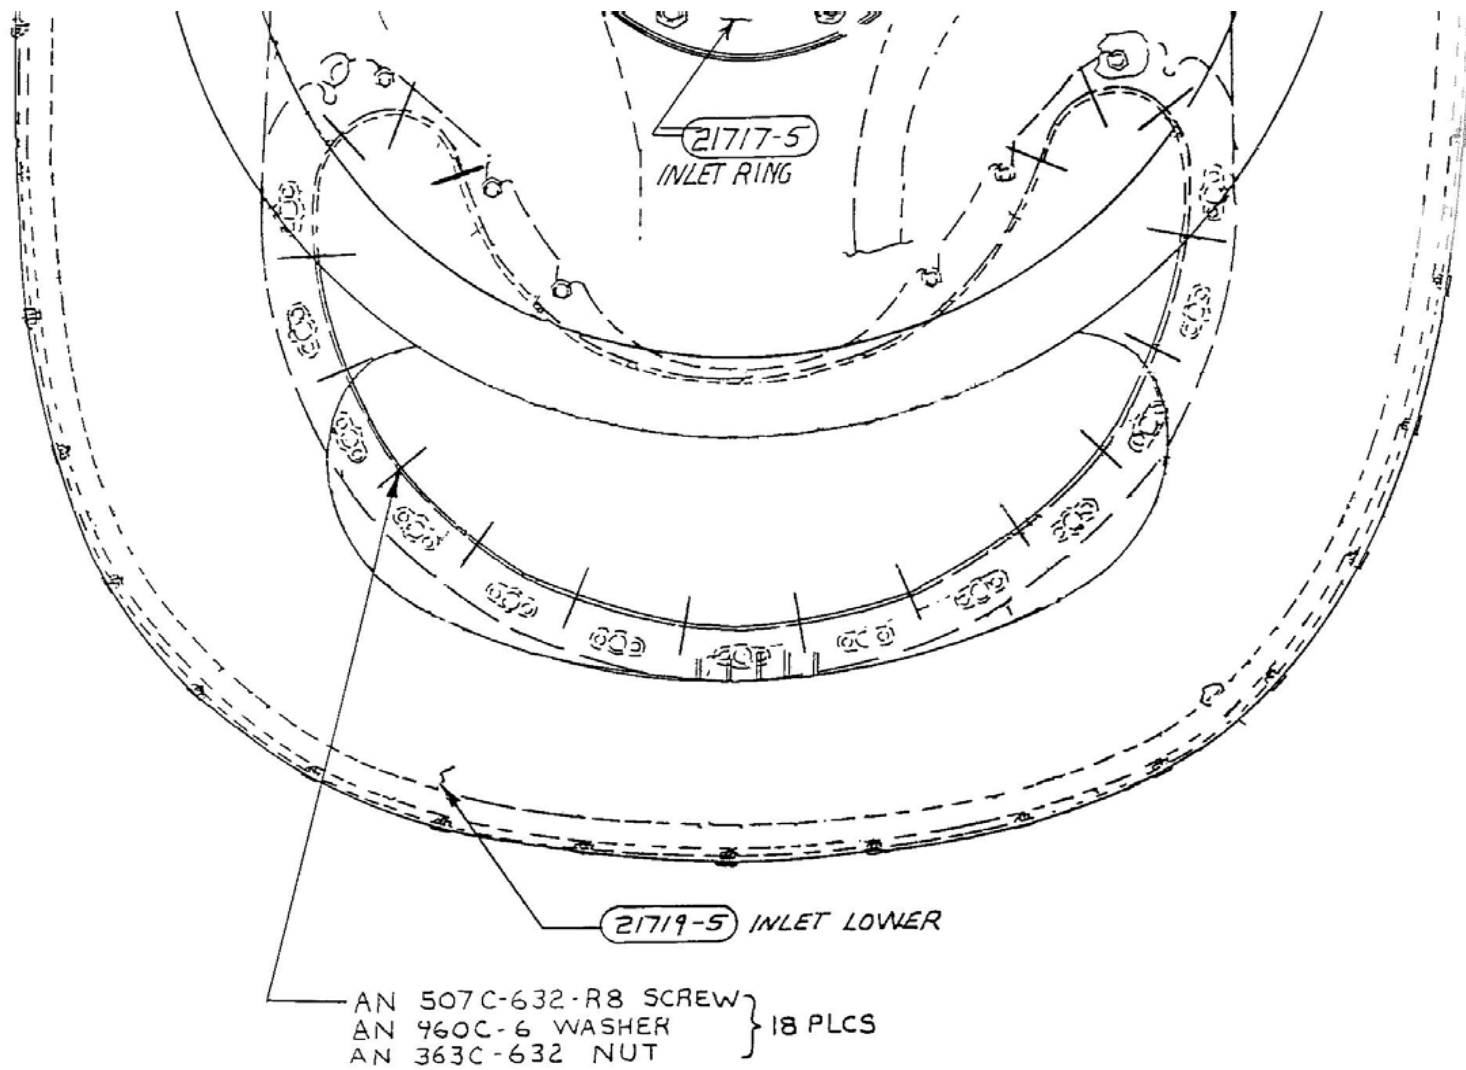

FIGURE 1
- 1) Remove the inlet bowl from the aircraft to gain access to the AN507C screws in question. Refer to Figure 1 for location.